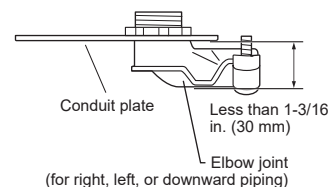

Fig. 2
- 6) Elbow joint should appear less than 1-3/16 in. (30 mm) outside. (Fig. 2)
- Pull out the drain hose at the back left of the indoor unit. (Fig. 2)